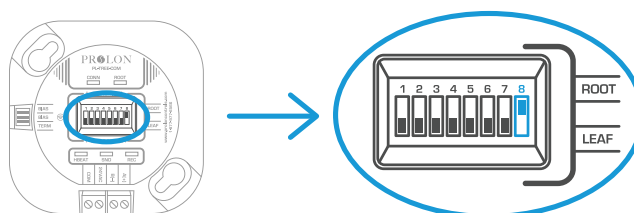

Figure 2
- 3c) These dipswitches are not to be mistaken with the controllers' Modbus address, they are for channel identification only. (Figure 2)
- 4a) The "ROOT"/"LEAF" function is activated using dipswitch number #8. (Figure 2)